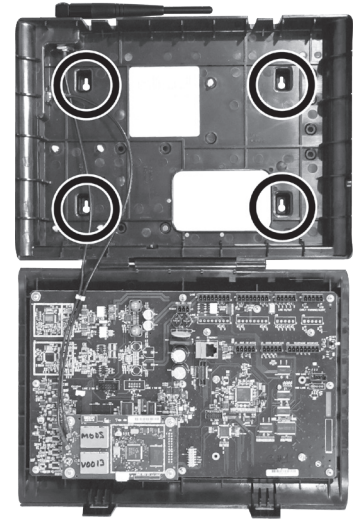

Figure 17. Open base station showing four screw holes
1. Hold the base station against the wall, with its door open, and mark the wall through the four screw holes on the back of the cabinet, shown in **Figure 17**.